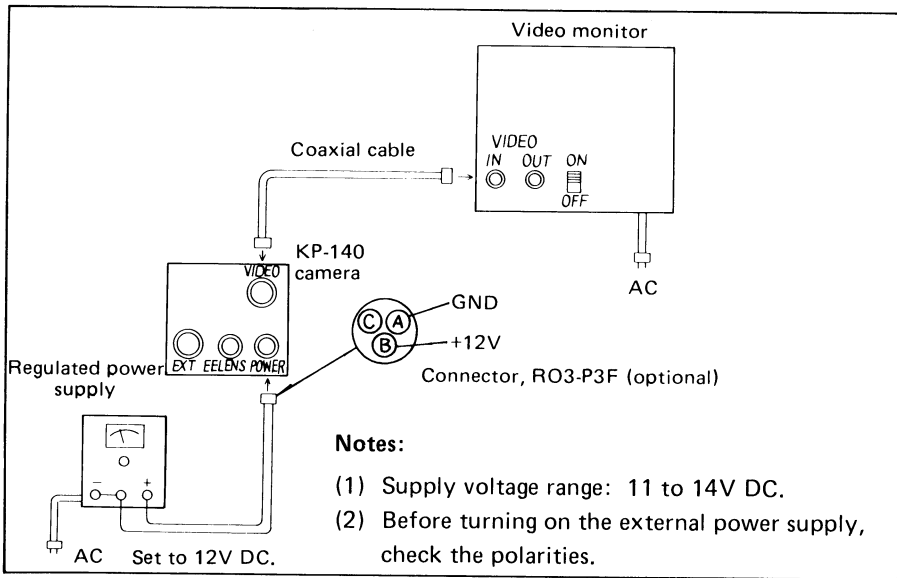

Fig. 5 Connection of regulated power supply (KP-140)
- Before turning on the POWER, check if the polarity is correct as shown in Fig. 5